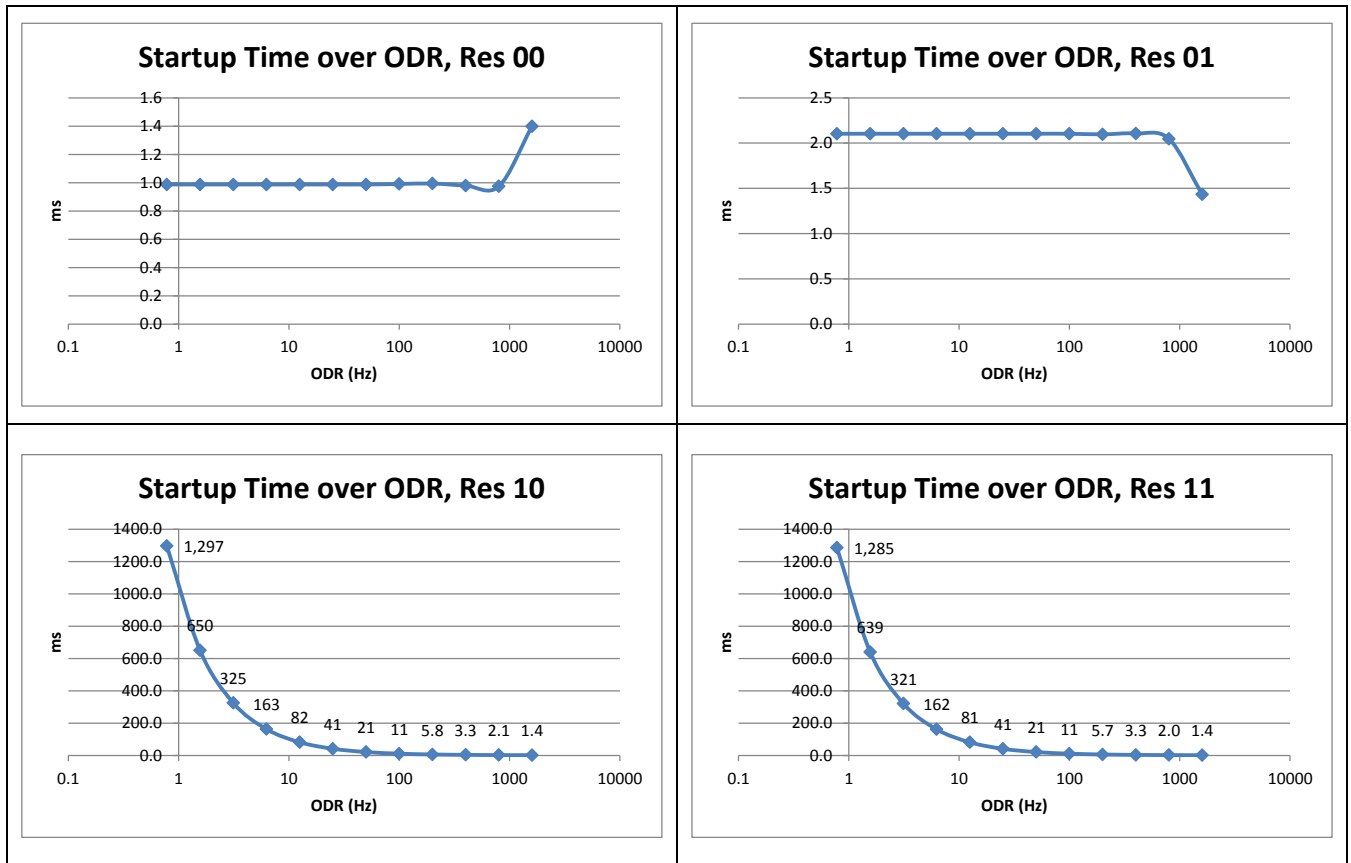

Figure 1: Start Up Time Diagram
6. Start up time is from ACCEL_EN / MAG_EN set to valid outputs. Time varies with Output Data Rate (ODR) and mode setting (RES) (see Figure 1).